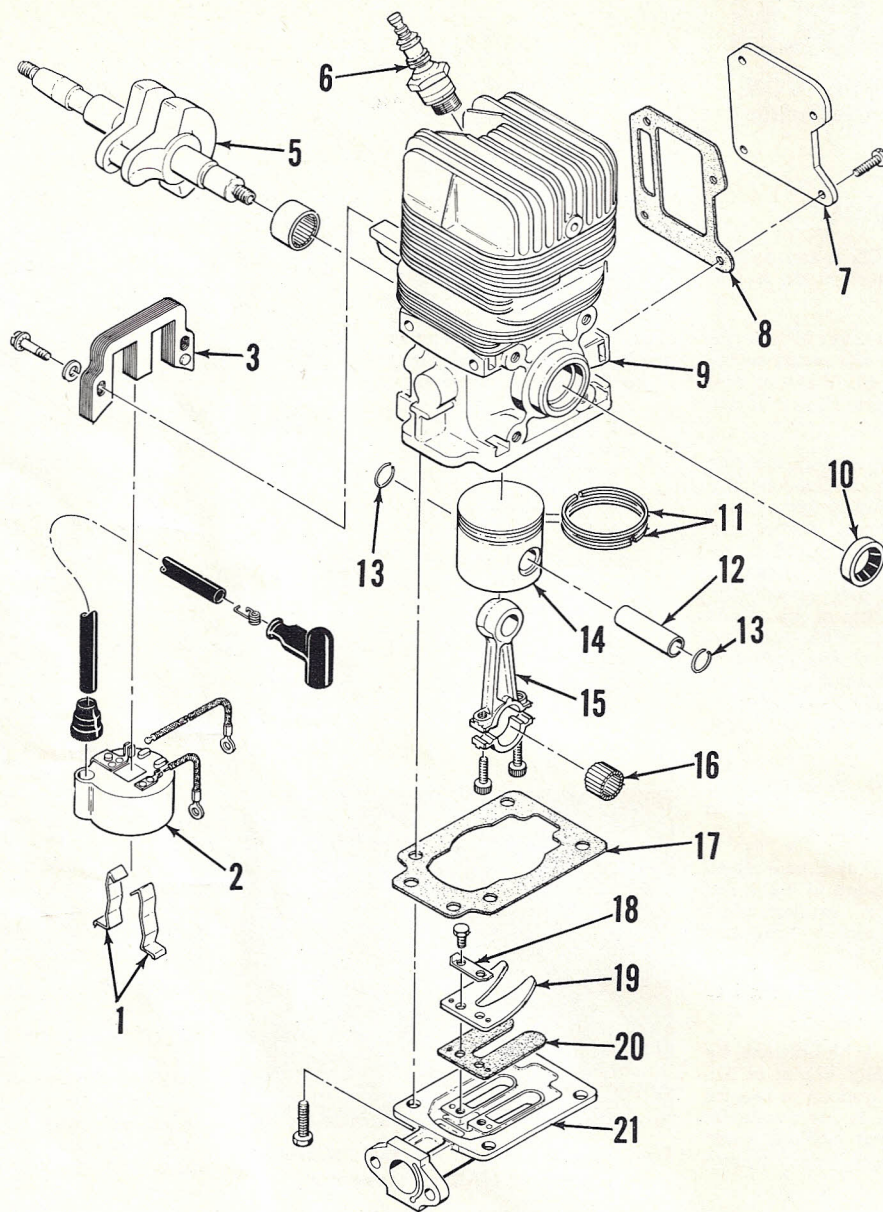

Fig. MC105 — Exploded view of MAC 15 power head.
**REED VALVES.** The dual reed inlet valves seat on the adapter plate (21—Fig. MC105). Renew valve reed if rusted, pitted or cracked or if reed does not seal against seat. Be sure to place smooth side of reed against seat. Tighten the retaining screws to a torque of 30-35 inch-pounds and bend the lock plate (18) against the screw heads.